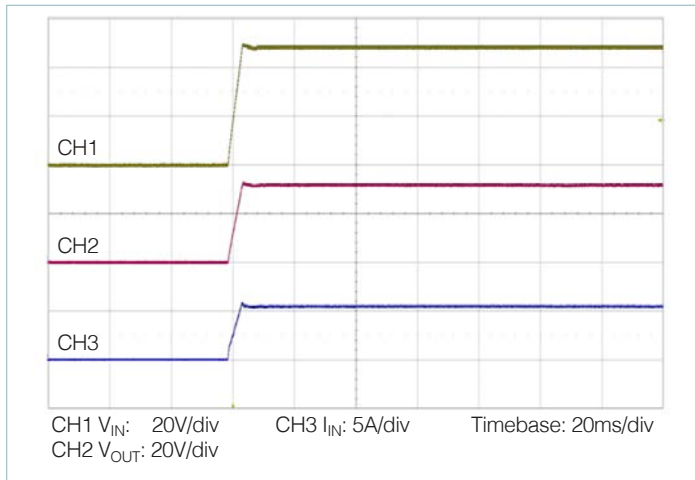

Figure 13 — Start up from application of  $V_{IN}$ ;  $V_C$  pre-applied  $C_{OUT} = 100\mu\text{F}$
- **Normal operation (VC applied prior to  $V_{IN}$ ):** In this case the controller is active prior to ramping the input. When the input voltage is applied, the VTM module output voltage will track the input (See Figure 13). The inrush current is determined by the input voltage rate of rise and output capacitance. If the VC voltage is removed prior to the input reaching 26V, the VTM may shut down.